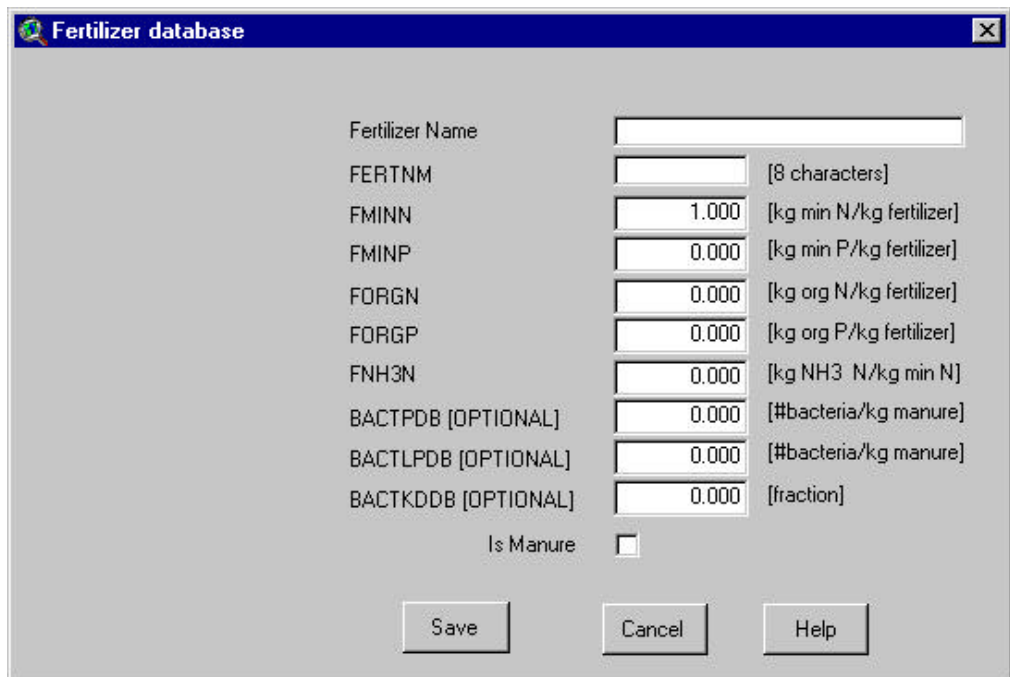

Figure 14.49
- c. A modified dialog box will appear with all the data fields filled except the fertilizer name (Figure 14.49).